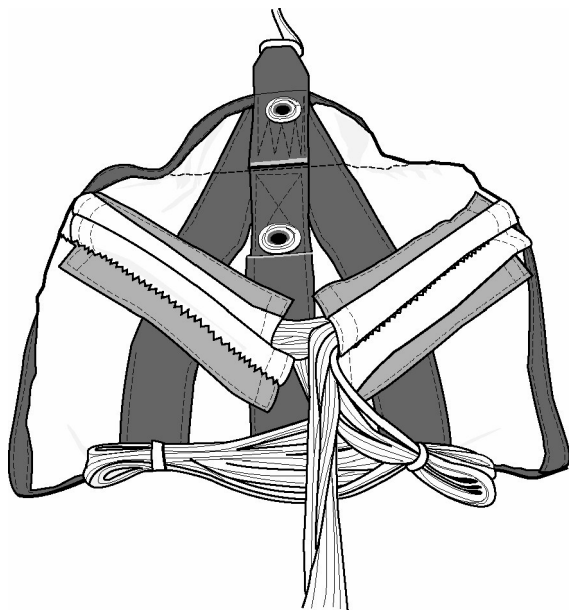

Figure 19. Second Stow in Upper Right Stowage Flute
c. Make second stow in the upper right stowage flute (Figure 19).